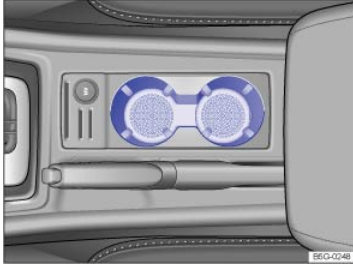

Fig. 140 In the front center console: Cup holders (without a cover).
- For vehicles without a cover, place the drink in the cup holder ⇒ Fig. 140.